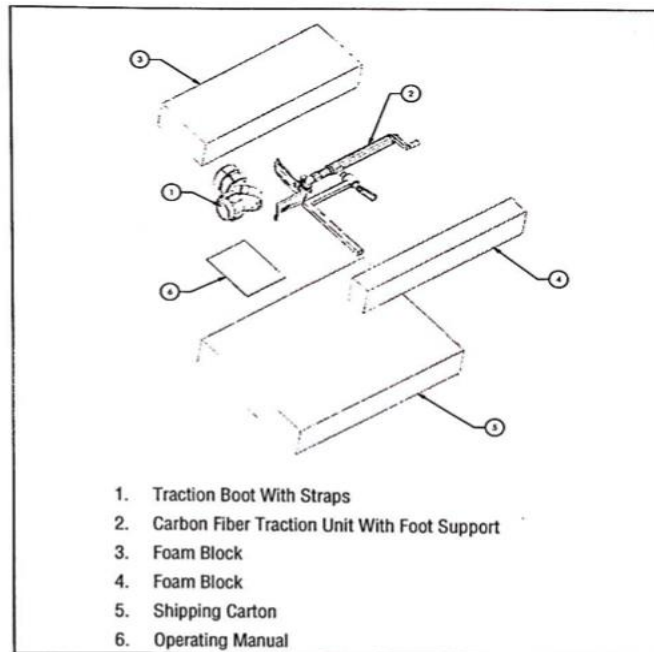

Figure 2-1. Remove Carbon Fiber Traction Unit (Typical)
4. Discard foam blocks (Items 3 and 4, Figure 2-1).
5. Carefully remove Carbon Fiber Traction Unit with Foot Support (Item 2, Figure 2-1) and place in Accessory Cart.
6. Remove Traction Boot With Straps (Item 1, Figure 2-1) and place in Accessory Cart.
7. Discard shipping carton (Item 5, Figure 2-1)..